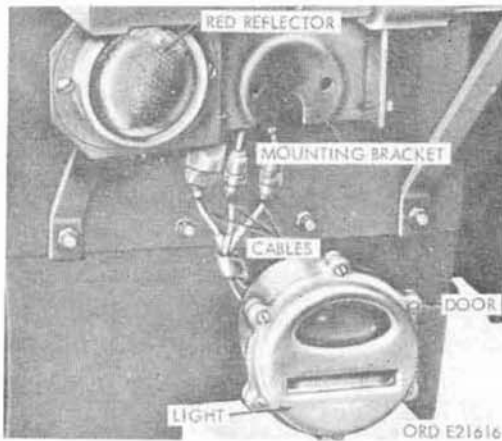

Figure 156. Left-hand tail- and stoplight partially removed (typical)
- (4) Tail- and stoplights (fig. 156). Tail- and stoplights include two waterproof units mounted at the rear of the vehicle. The right-hand light incorporates
- (1) Removal. Remove six roundhead screws from the door. Remove the door and the door seal gasket. Push the lamp in and turn it counterclockwise to remove the lamp from socket (fig. 156).
- (2) Installation. Insert the lamp in the socket and turn it clockwise to lock. Test the lamp by turning on the light switch. Install the door seal gasket and door. Install six grooved round-head screws, and tighten securely.